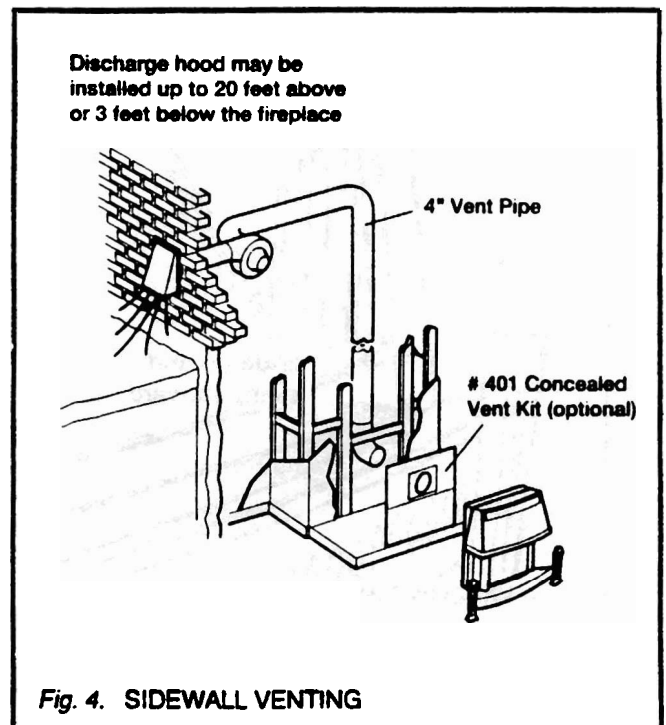

Fig. 4. SIDEWALL VENTING
4. With a sidewall vent. For this application the heater must be fitted to a power vent system using the optional #501PVK power vent kit. This allows the heater to sidewall vent through any approved 4" diameter vent to a remote fan hood up to 75 feet from the appliance. #401 CVK Concealed vent kit is also usually employed for this type of installation (see figure 4).